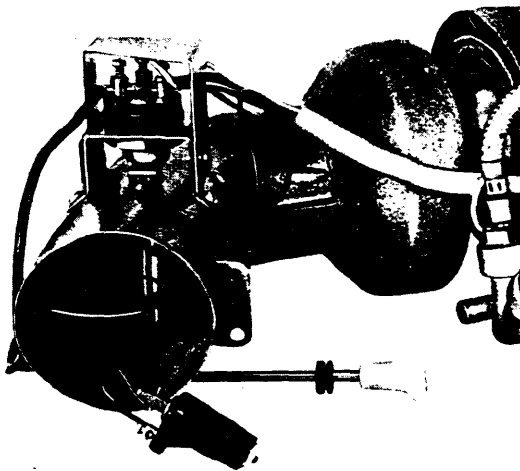

Fig. 18
**3 - Removal of warm air outlet with resistor switch (Fig. 18)**